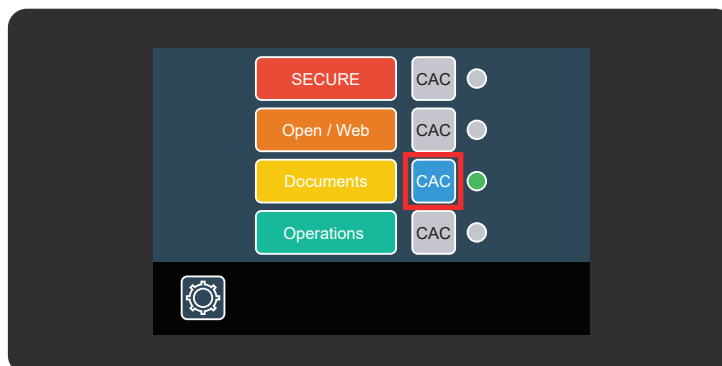

Figure 8. CAC button
- To enable a CAC device on a specific computer, simply press the CAC button next to the name of the computer on the touchscreen as shown in Figure 8.